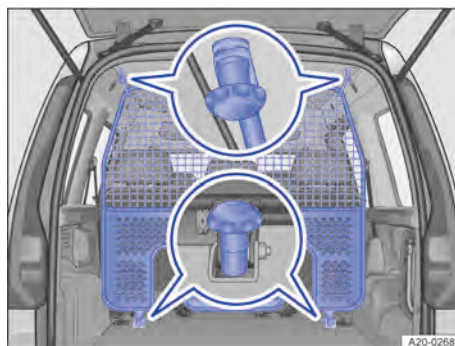

Fig. 154 In the load compartment: partition grille behind the second row of seats.
3. Screw the partition grille tight at the rear mounting points in the roof → Fig. 154.
4. Screw the partition grille tight at the lower anchor points → Fig. 154.
3. Screw the partition grille tight at the front mounting points in the roof → Fig. 154.
1. Unscrew the partition grille at the lower anchor points → Fig. 154.
2. Unscrew the partition grille at the mountings in the roof → Fig. 154.